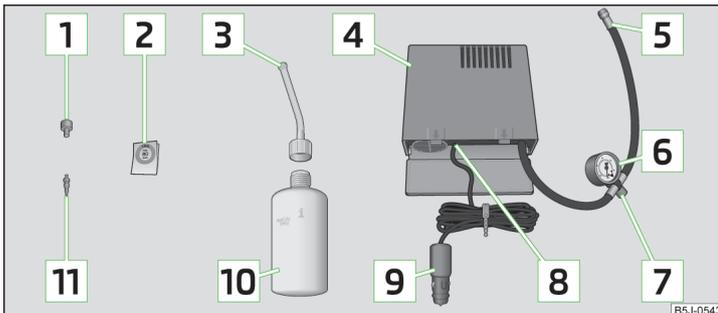

Fig. 145 Principle sketch: Components of the breakdown kit
Repair kit components » Fig. 145
- Stick the sticker **2** » Fig. 145 on page 163 on the dashboard in the driver's field of view.
- Shake the tyre inflator bottle **10** » Fig. 145 on page 163 vigorously several times.
- Screw the air compressor tyre inflation hose **5** » Fig. 145 on page 163 firmly onto the tyre valve.